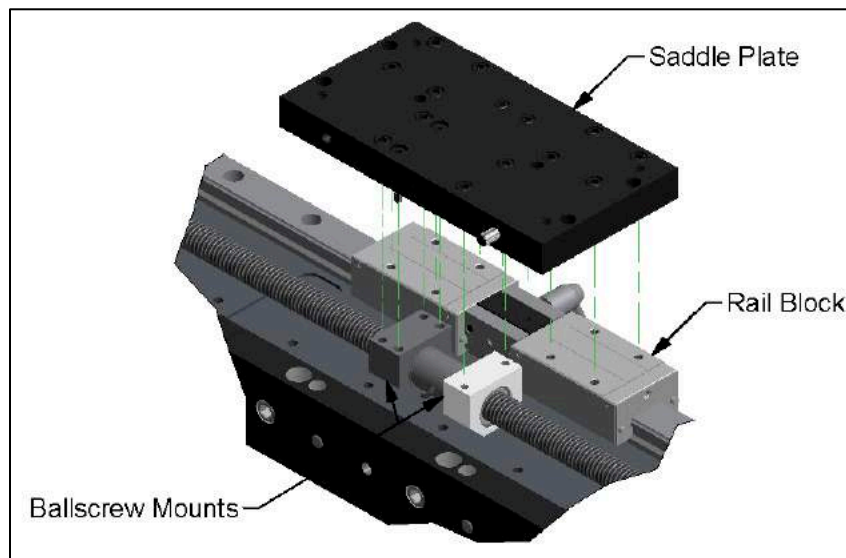

Figure 9. Ballscrew mounts (left) and saddle plate (top) and rail block (right)
1. Attach the saddle plate to the rail blocks as shown in Figure 9. The outside edge should be flush with the rail blocks. This aligns the saddle to the bed and in turn aligns the ram to the bed.